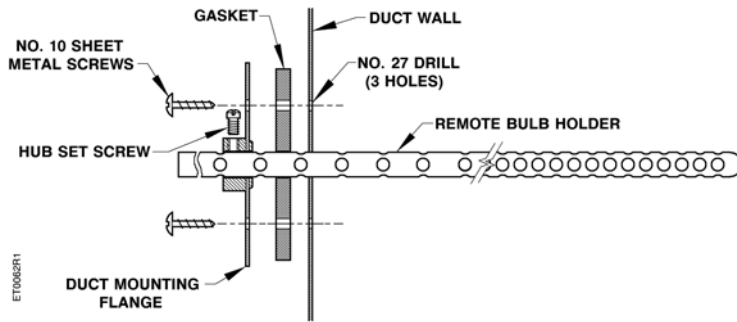

Figure 3. Remote Bulb Holder Kit No. 808-517.
- Use a remote bulb holder No. 808-517 to support the remote bulb. See Figure 3. The holder may be shortened to fit small ducts.